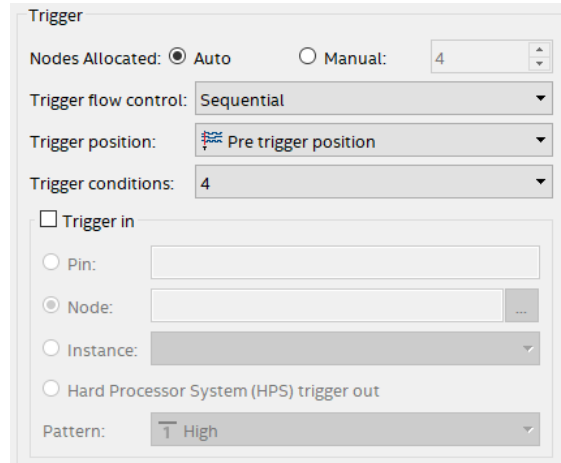

Figure 13. Set trigger conditions to 4.
- In the Signal Configuration pane, select 4 from Trigger Conditions dropdown menu as in Figure 13 (you may have to scroll down in the Signal Configuration pane to see this menu). This modifies the node list window by creating three new Trigger Conditions columns.